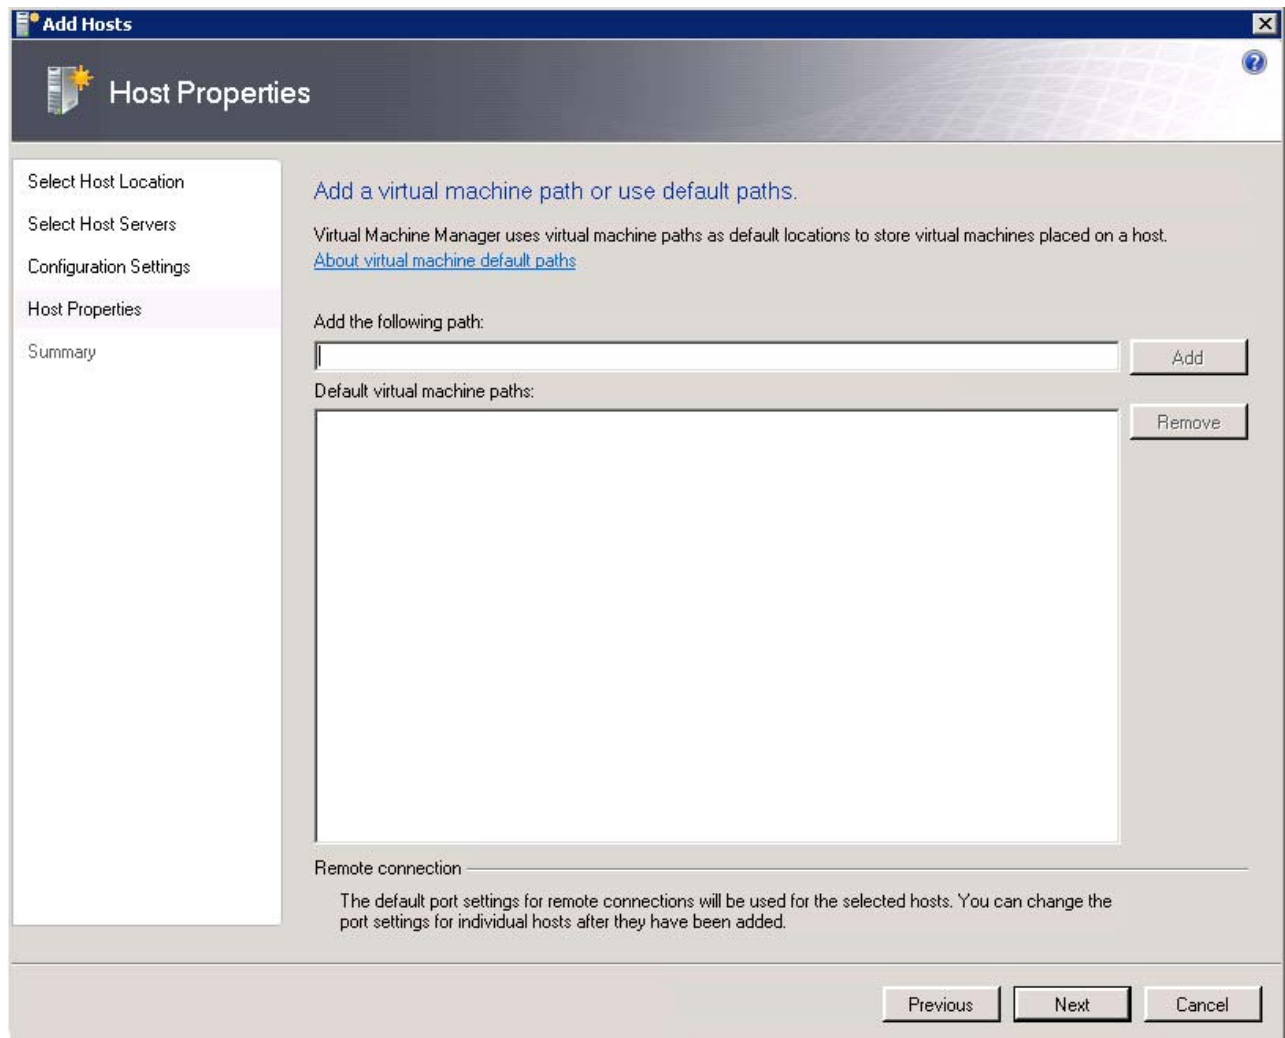

Figure 3-5 Add Hosts wizard: Host Properties
5. Enter the default path of the virtual machine in the Host Properties window (shown in Figure 3-5). This path can be left blank.